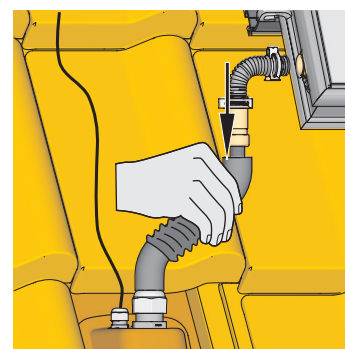

Fig. 3-37 Insert push fittings solar panel connection elbows
15. Push the plug fittings of the solar panel connection elbows onto feed (at the top of the solar panel Ø 15 mm) or return flow connection pipe (at the bottom on the solar panel Ø 18 mm) respectively (Fig 3-37).